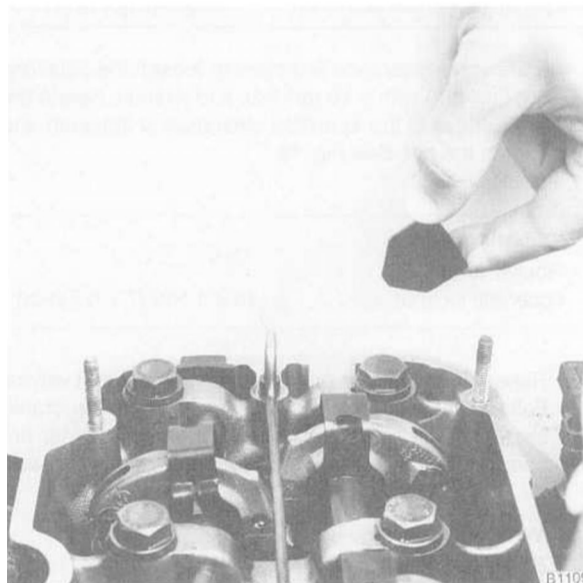

Fig. 20. Rubber retaining plug being removed from cylinder head.
6. Remove the four rubber plugs from the front and rear of the cylinder head. See Fig. 20.